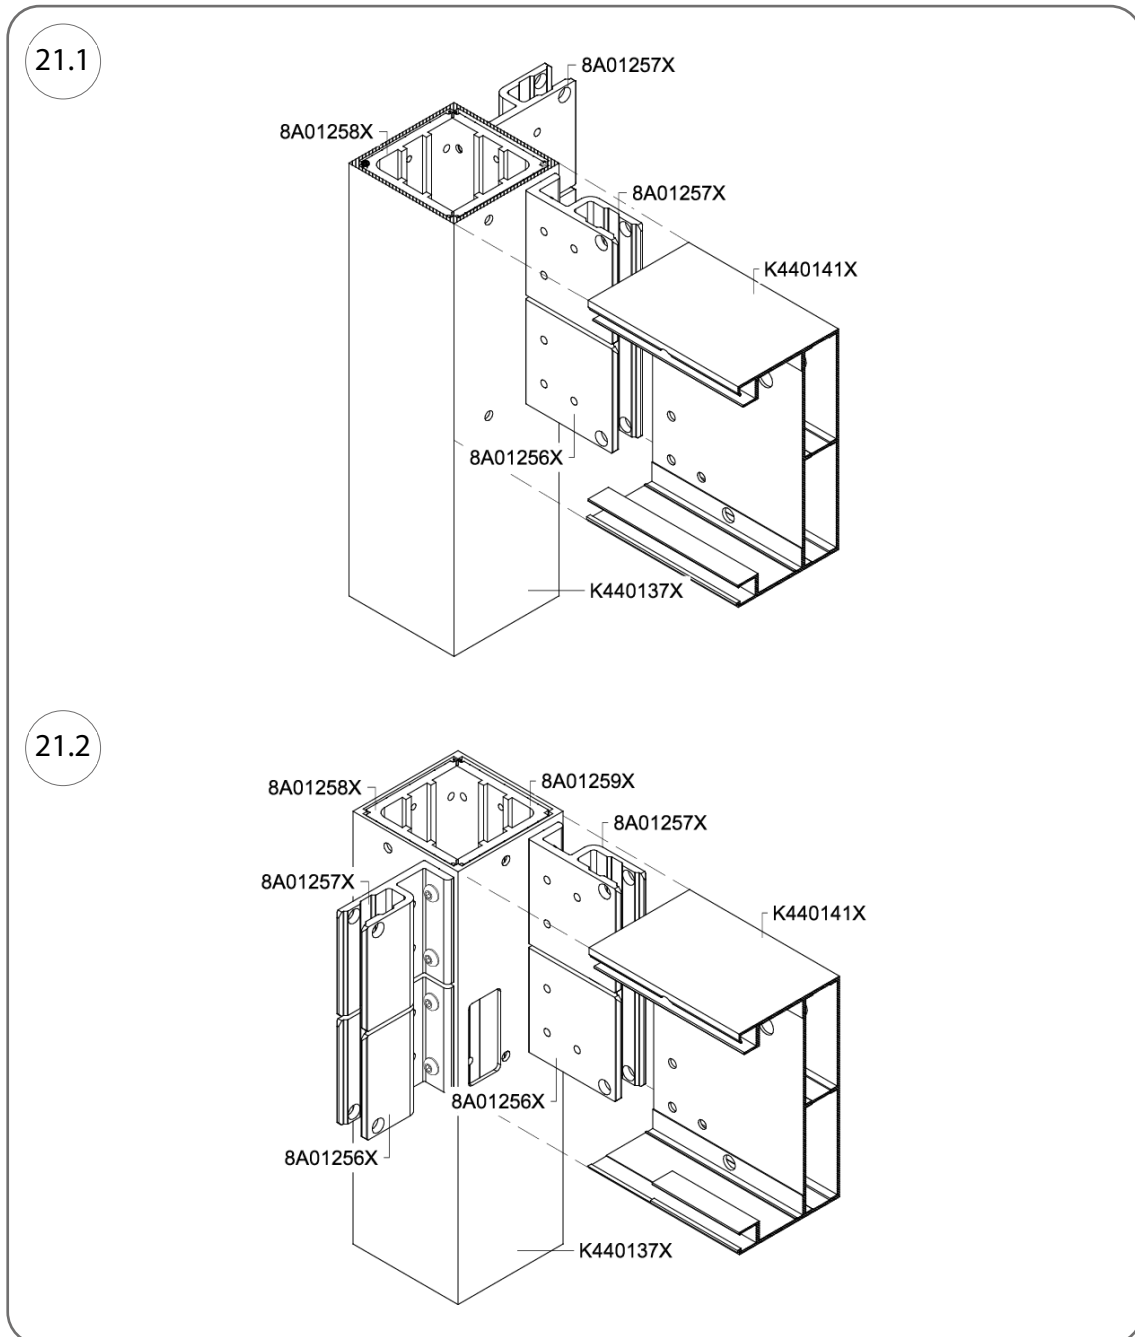
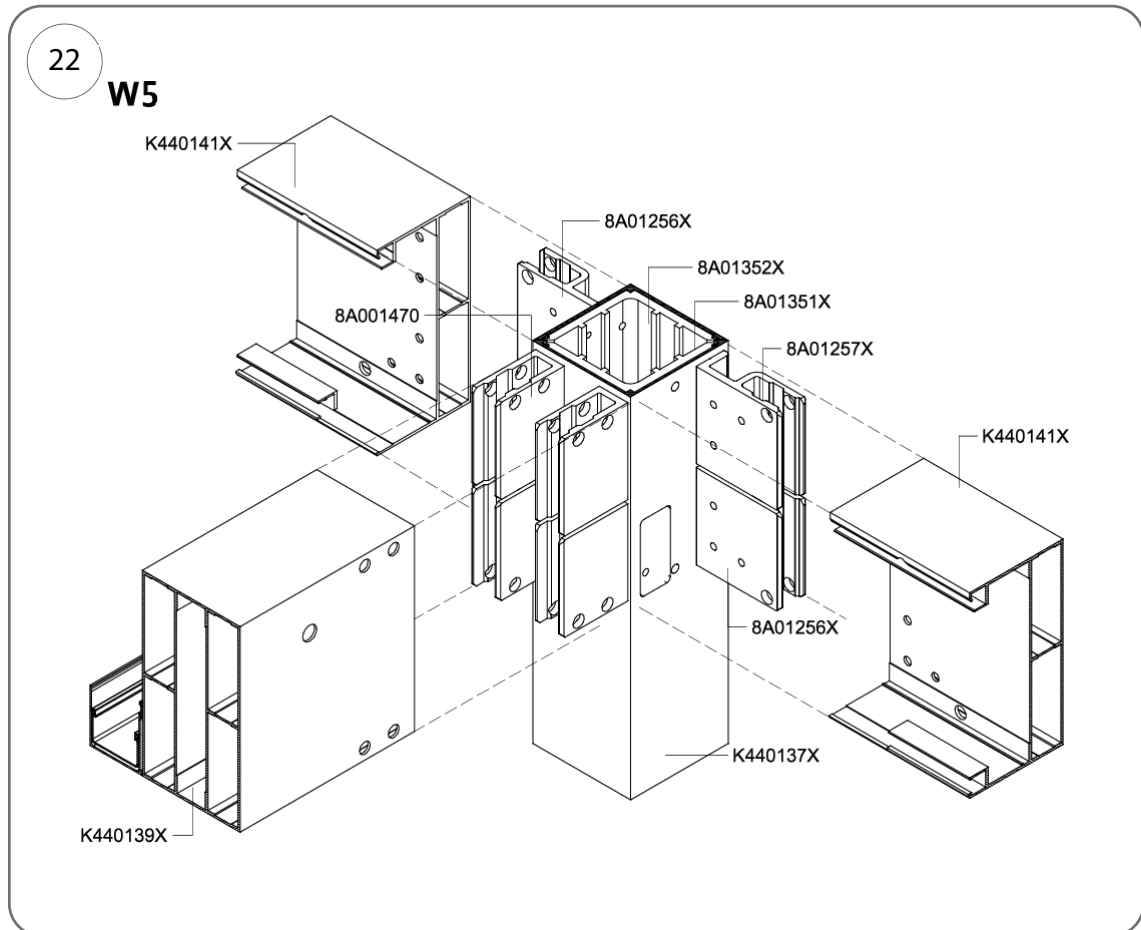
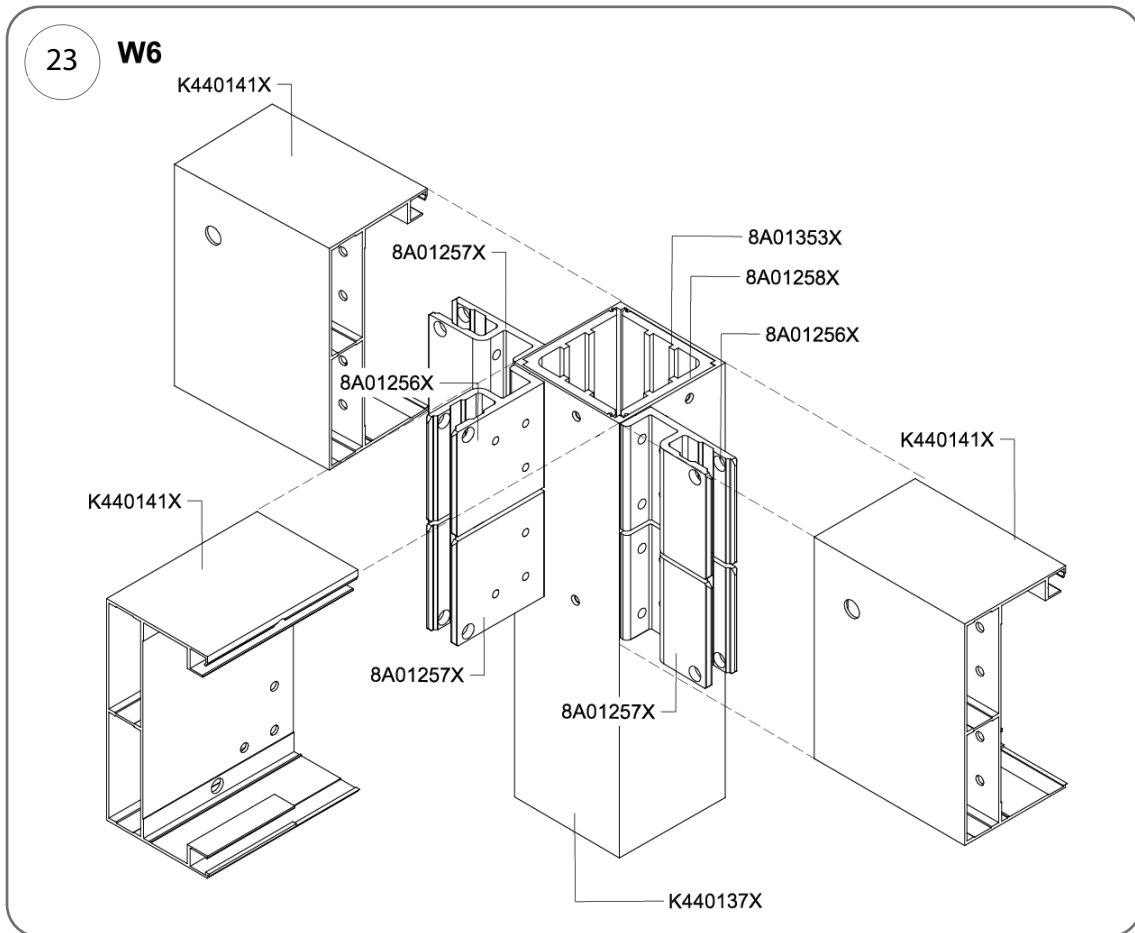

Fig. 21
Fig. 22
Fig. 23
4. Fit the purlins onto the fasteners secured in accordance with Fig. 22 and Fig. 23 to connect them to the posts.
6. Pass bolts Cat. No. 80371262 (M8 x 90 mm) through the holes in the pins 8A01260X and screw them into the walls of the post connectors cat. no. 8A01258X (left) or 8A01259X (right) in nodes W2 and W4, or into connectors cat. no. 8A01353X and 8A01258X in the case of node W6 (Fig. 23) with an intermediate purlin, double-bay longitudinal pergola.
1. Place the purlins onto the fasteners secured in accordance with Fig. 21, Fig. 22 and Fig. 23 to connect them to the posts.